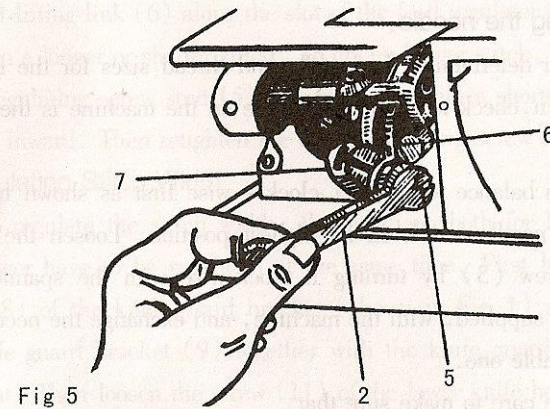

Fig 5
The stitch length can be regulated according to the requirements of the workpiece. Turn the balance wheel first until the needle bar is in its highest position, then loosen the stitch regulating screw stud (5) by turning it counterclock-wise with the spanner (2) supplied with the machine (see Fig.5). Then move it together with